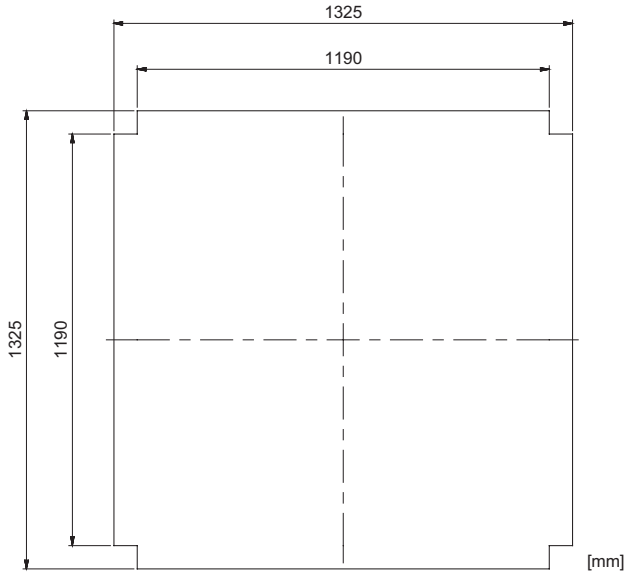
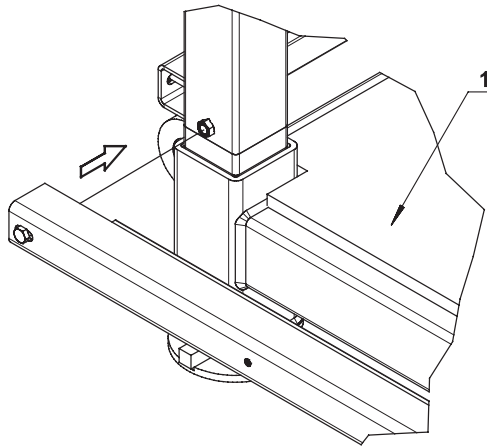

Figure 17. Dimensions for the bottom board.
Figure 18. Example of placement of Formwork Support.
- 4.1. Check that all four Corner Posts are inserted correctly into the Bottom Frame. Cut a piece of 18 mm Formwork Plywood, complying with EN 636-3, in the format as shown in Figure 17 and place in the centre of the Bottom Frame. Bolt the eight Formwork Supports to the welding nuts located on the Corner Posts. Use the bolts attached to the Formwork Supports, see Figure 18. At this step it is not necessary to tighten the bolts.